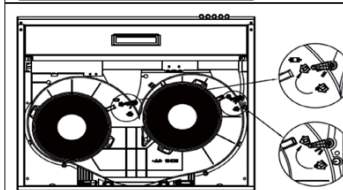

Fig. 6.1
- For **recirculation mode**, slide the lever to position as shown (Fig. 6.1)